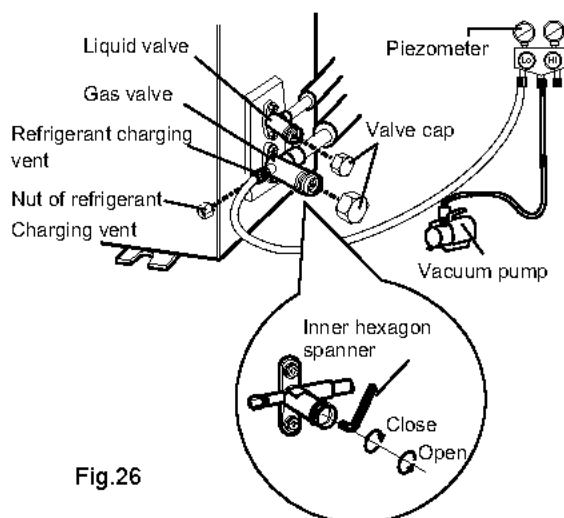

Fig.26
- (1) Remove the valve caps on the liquid valve and gas valve and the nut of refrigerant charging vent.
- (2) Connect the charging hose of piezometer to the refrigerant charging vent of gas valve and then connect the other charging hose to the vacuum pump.
- (3) Open the piezometer completely and operate for 10-15min to check if the pressure of piezometer remains in -0.1MPa .
- (4) Close the vacuum pump and maintain this status for 1-2min to check if the pressure of piezometer remains in -0.1MPa . If the pressure decreases, there may be leakage.
- (5) Remove the piezometer, open the valve core of liquid valve and gas valve completely with inner hexagon spanner.
- (6) Tighten the screw caps of valves and refrigerant charging vent. (As show in Fig.26)